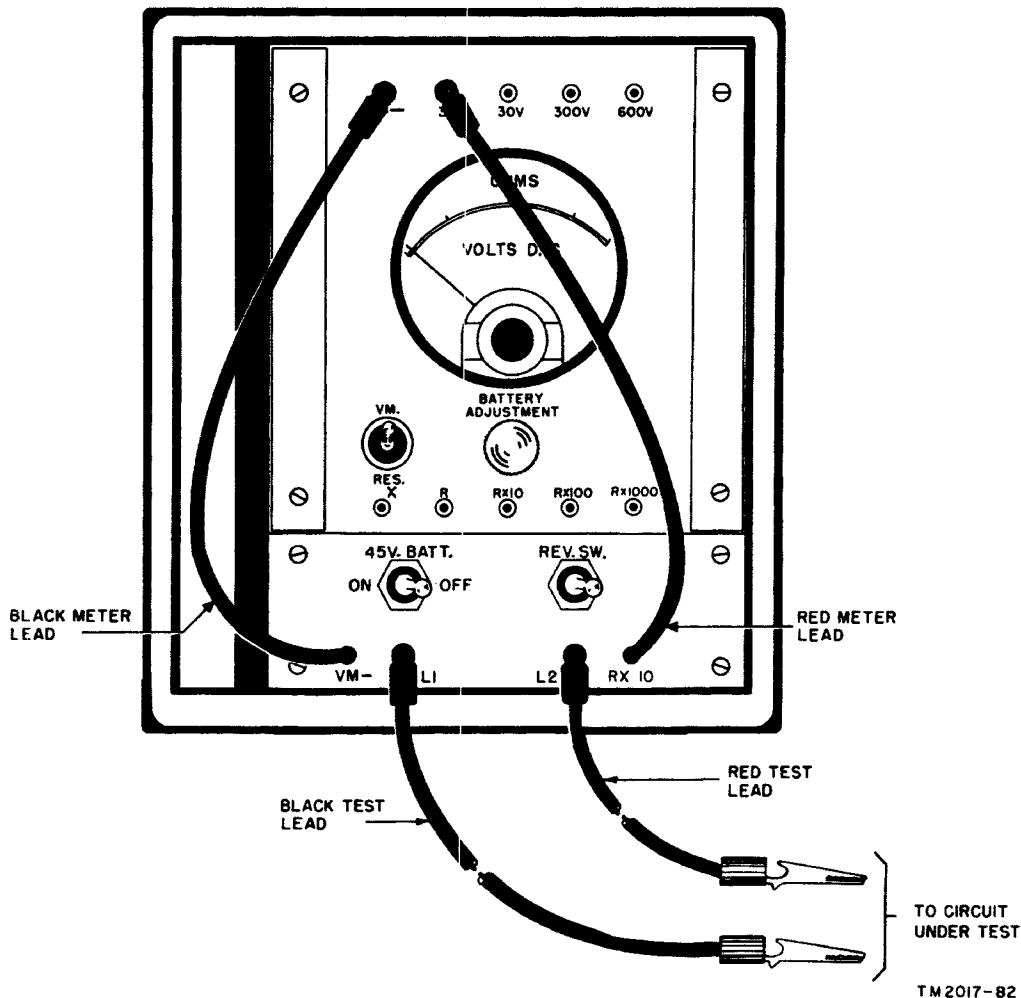

Figure 14. Test Set TS-26(\*)/TSM, arranged for measurements between 0 and 3 volts dc.
- (d) 3V jack for measurements between 0 and 3 volts (fig. 14).
(1) If the 0- to 3-volt range is used (fig. 14), divide the reading on the VOLTS D. C. scale by 100. In this case, the dc voltage is  $100 \div 100$  or 1 volt.